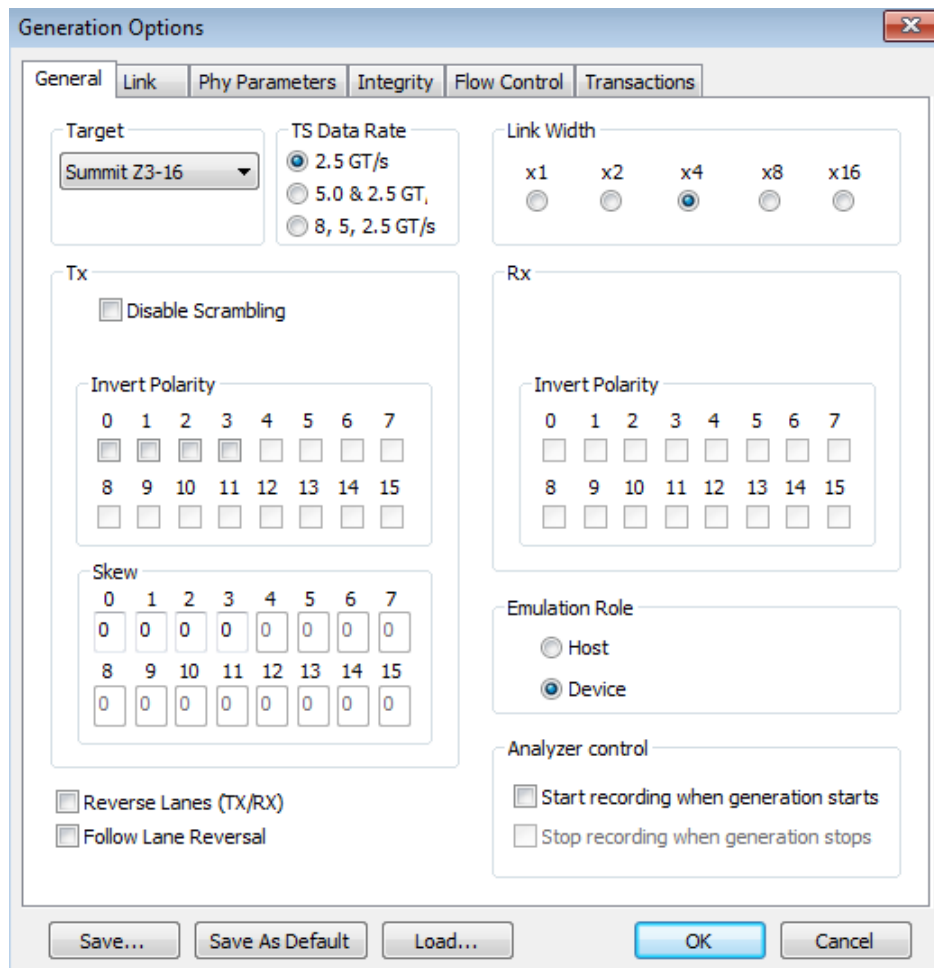

Figure 7.1: Generation Options - Device Emulation.
2. Select the General tab and click **Device** in the Emulation Role pane (see Figure 7.1 on page 93).